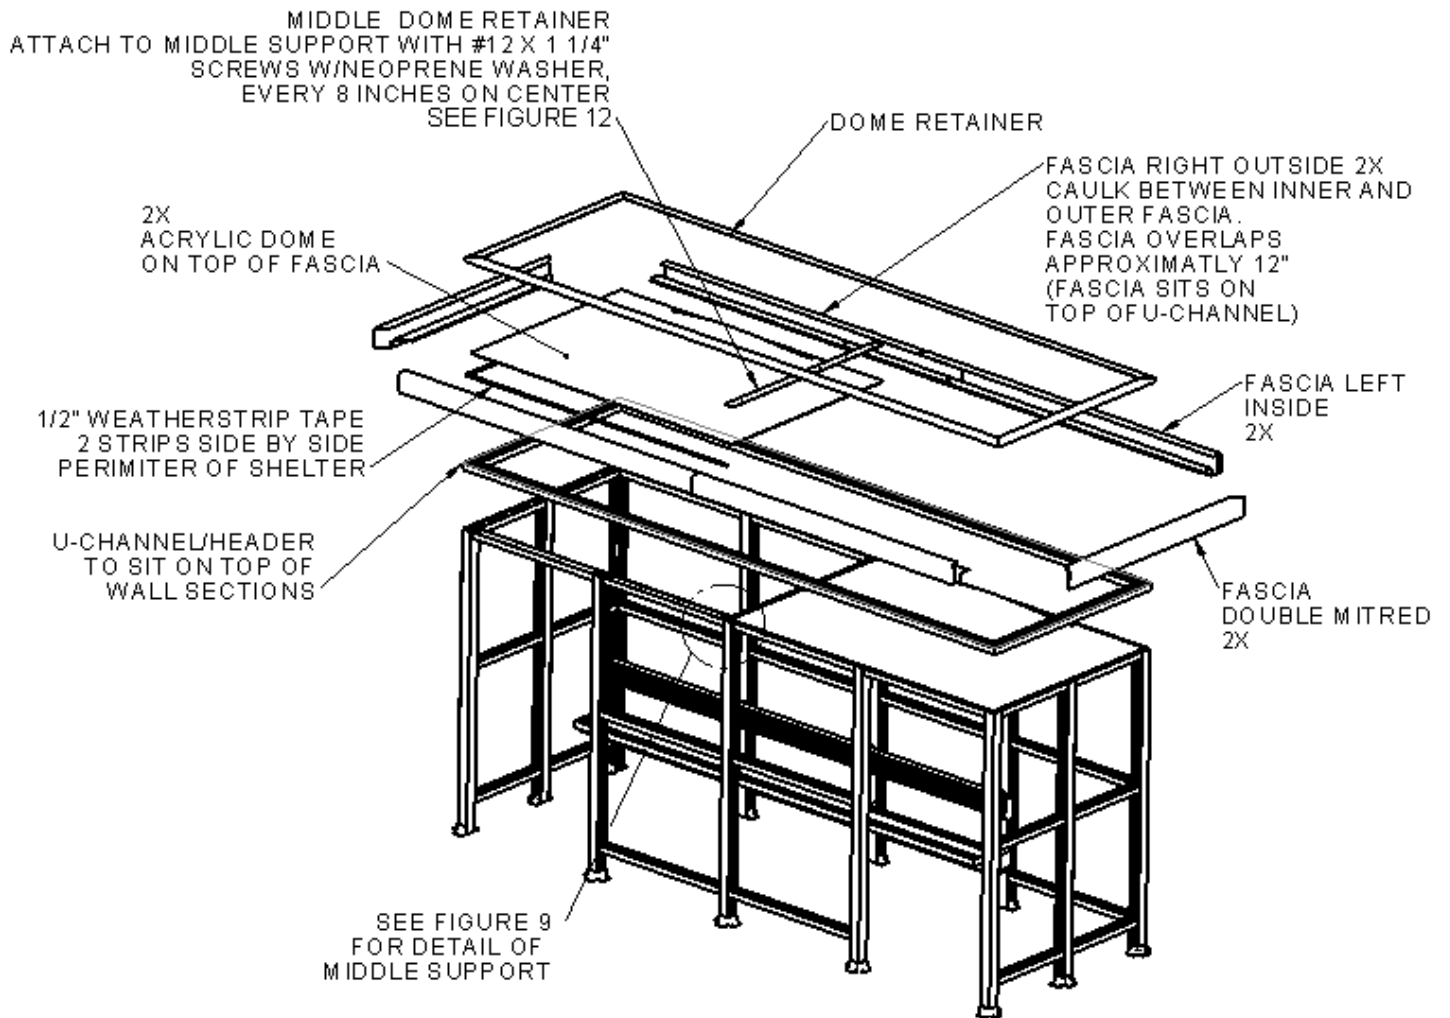

Figure 2
CAUTION: AS YOU ASSEMBLE THE SEQUENTIALLY NUMBERED PANELS BE SURE THE PANELS CREATE THE SHELTER ASSEMBLY PATTERN SHOWN IN FIGURE 2 BELOW. OPENING(S) MAY DIFFER FROM MODEL SHOWN. CHECK INSTALL LAYOUT FOR PANEL AND OPENING LOCATION(S).